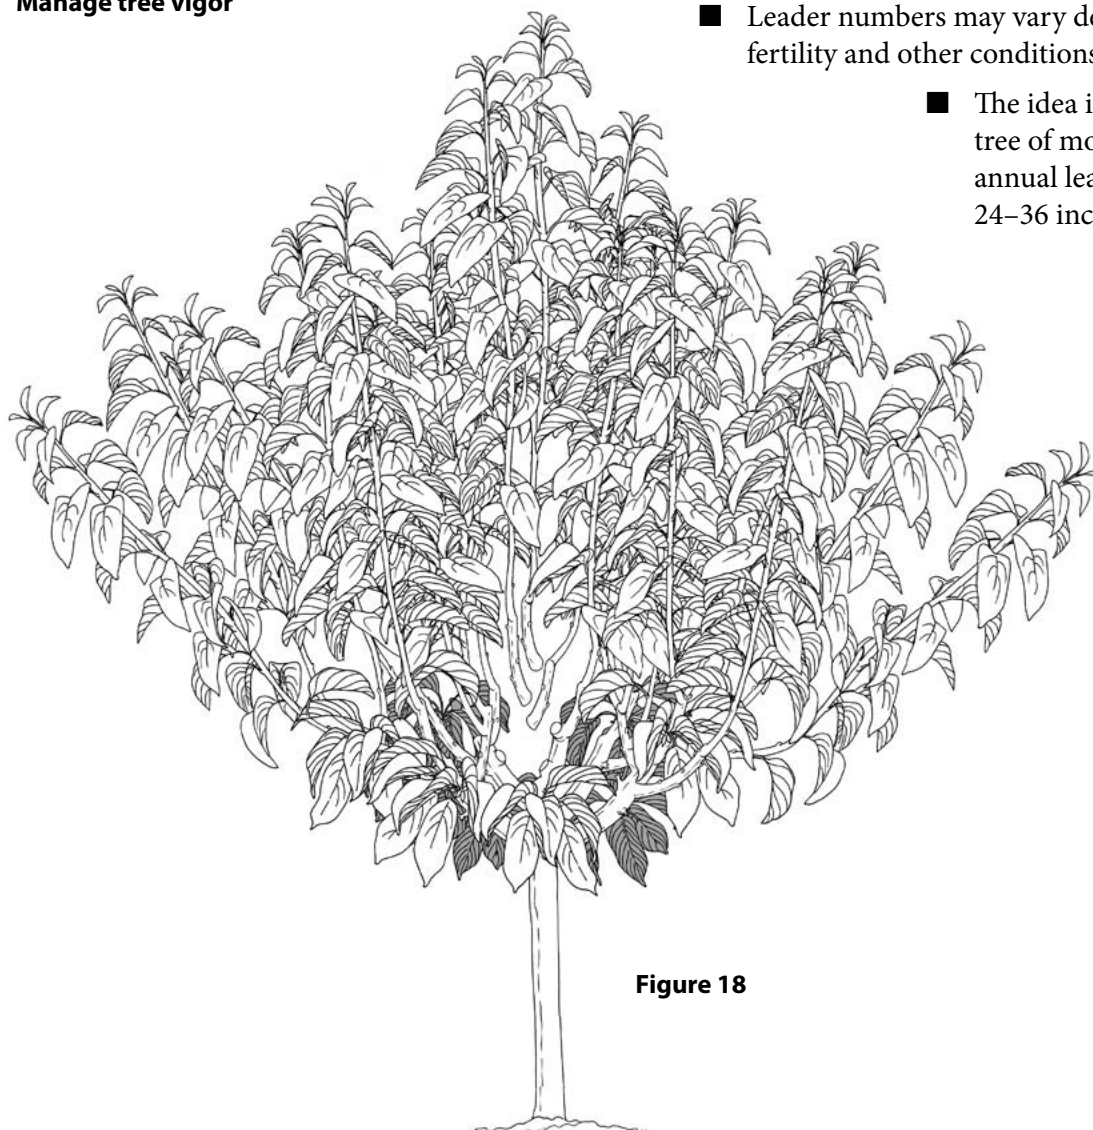

Figure 18
- The presence of yellow leaves at the bottoms of the leaders indicates excessive shading; two to four strategically placed leaders should be removed from the center of the tree to improve light penetration (Figure 18).